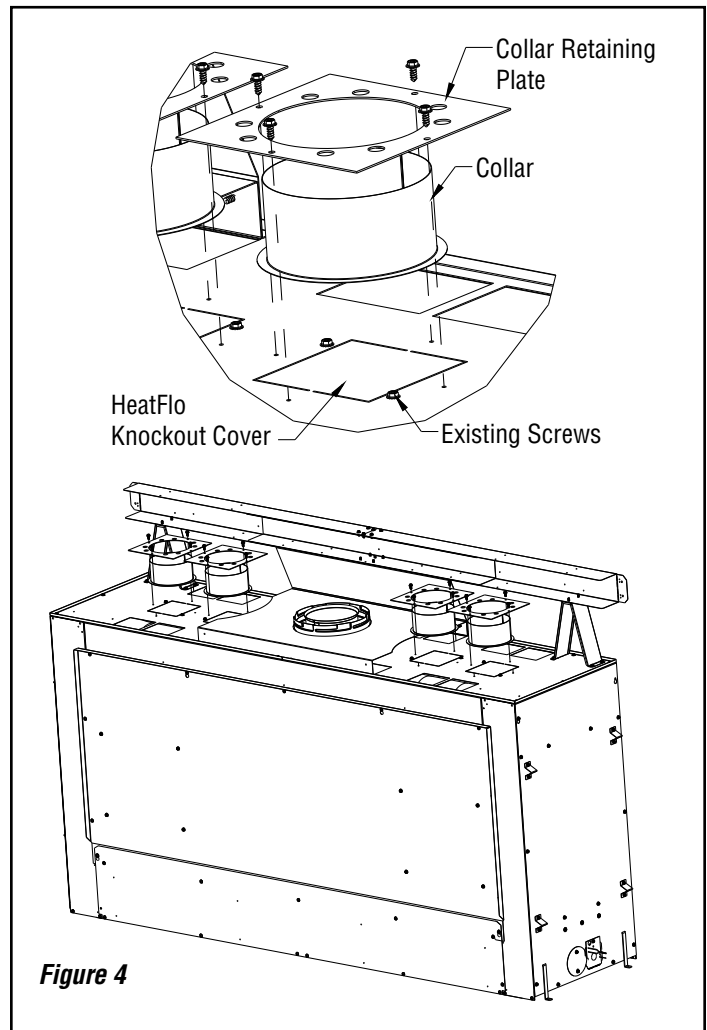

Figure 4
3. Remove the two (2) existing hex head screws from each of the four (4) HeatFlo knockout covers. Twist the four (4) HeatFlo knockout covers back and forth until they can be removed and discarded (see **Figure 4**).
4. Place the collars over each knockout opening, then place the collar retaining plate over them and fasten down with the provided #10 hex head screws (see **Figure 4**).